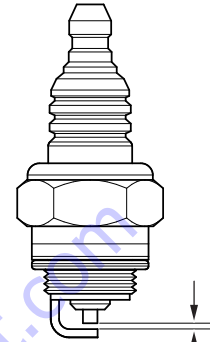

**Figure 58. Draining Engine Oil**
- Remove the drain bolt and sealing washer, and allow the oil to drain into a suitable container (Figure 58).